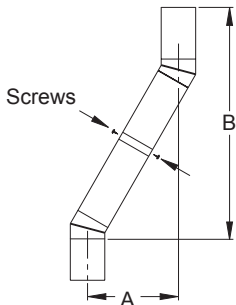

Figure 7 - Elbow Offset
Continue to assemble chimney sections as outlined above, making sure that both inner and outer pipe sections are locked together. When installing double wall snap-lock chimney together, it is important to assure the joint between chimney sections is locked. Check by pulling chimney upward after locking. The chimney will not come apart if properly locked. It is not necessary to add screws to keep chimney together (exception, see Figure 7).
- To achieve desired offset, you may install combinations of 12", 18", 24", 36" and 48" length of double wall pipe (see offset chart and Figure 7).
- All pipe connections between offset and return must be secured with two screws on outer pipe only (see Figure 7). Do not penetrate inner stainless.